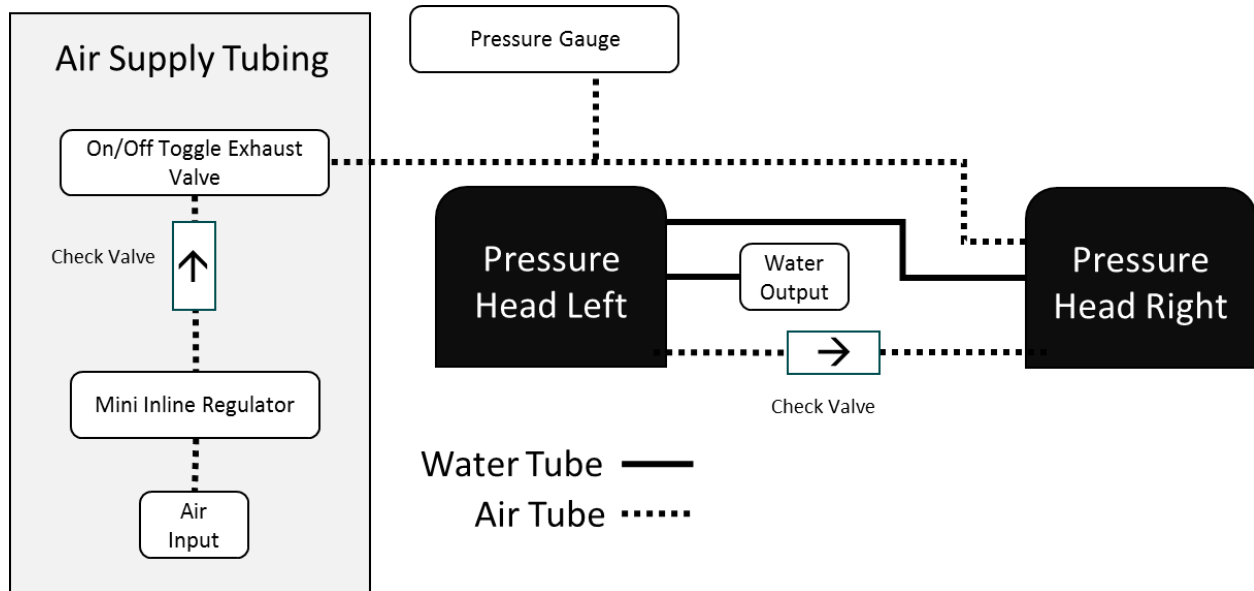

Fig. 4
6. **NOTE:** Make sure the flow of the check valve is toward the bottle on the right. Reference **Fig. 4** for check valve orientation and location.
NOTE: Check valve will flow toward the on/off toggle exhaust valve (and the bottles). Reference **Fig. 4** for check valve orientation and location.